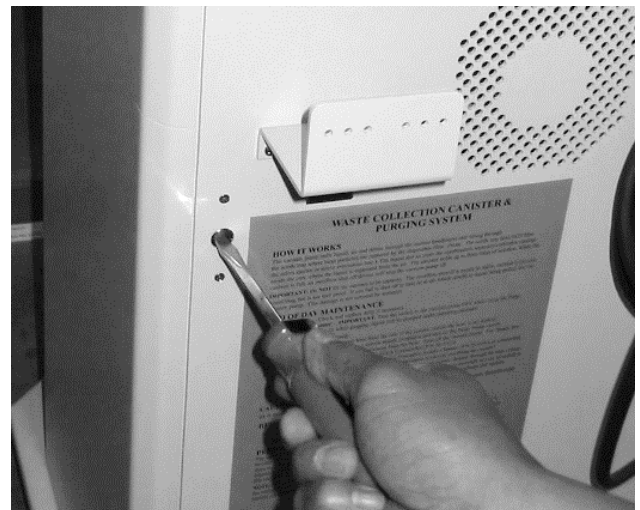

Fig. 1
- 3 Open the back panel of unit using a flat head screwdriver. There are two quick-turn screws on the back of unit. Move the suction tube and electrical cord out of the way of the back door. (Fig. 1)